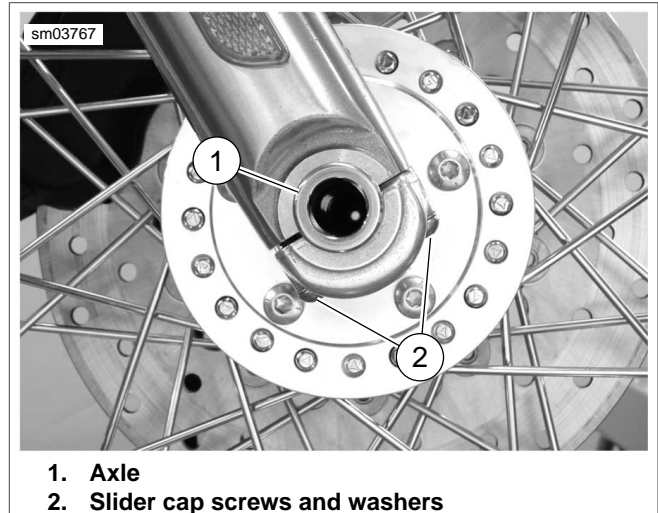

Figure 2-4. Front Wheel Mounting (Right Side)
4. Remove axle nut and washer (3).
5. See Figure 2-4. Loosen the slider cap screws (2) and pull the axle (1) free.